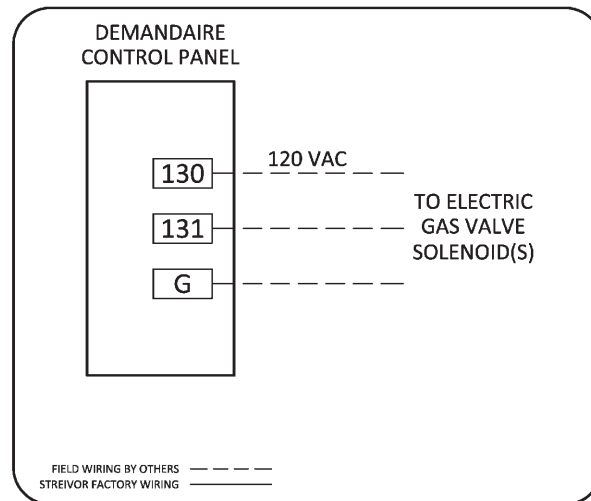

FIGURE 16: Electric Gas Valve Circuit Output Power Wiring
- Connect 120 VAC single phase power from terminal blocks *130*, *131*, and *ground* in the control panel to the corresponding pre-wired leads on the electric gas valve solenoid(s) (*Figure 16*).